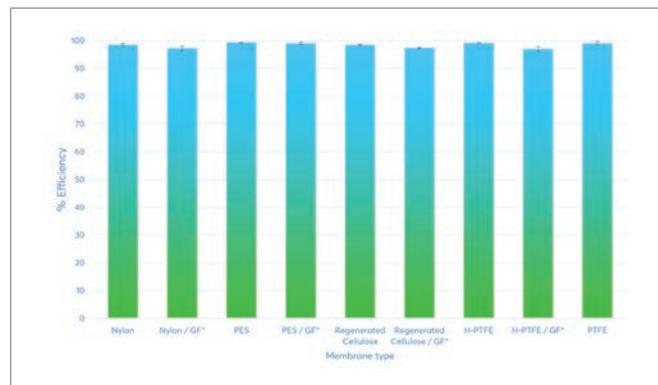

Figure 1: Extraction efficiencies of J.T.Baker® Syringe filters according to membrane type. * Refers to filters with built-in glass fiber pre-filters
by spectrophotometry (UV, 272 nm) (Figure 1). Triplicate analyses were performed for multiple batches. Samples were prepared in water for hydrophilic membranes and in methanol for hydrophobic membranes.
Figure 1: Different measurement modes of the AF30/x reflection unit. On the left side external reflection (materials: CaF_2 , BaF_2), on the right side internal reflection (materials: Ge, Si).
With the BRUKER A530/x reflection unit, prepared for electrochemical cells, both may be studied (2). For an external IR reflection-absorbance spectroscopy (IRRAS) set-up, a thin layer configuration is used, which allows for the study of the electrolyte and the electrode surface. Alternatively, an internal reflection ATR set-up can be used to analyze the electrode surface directly with limited influence of the electrolyte (see figure 1).